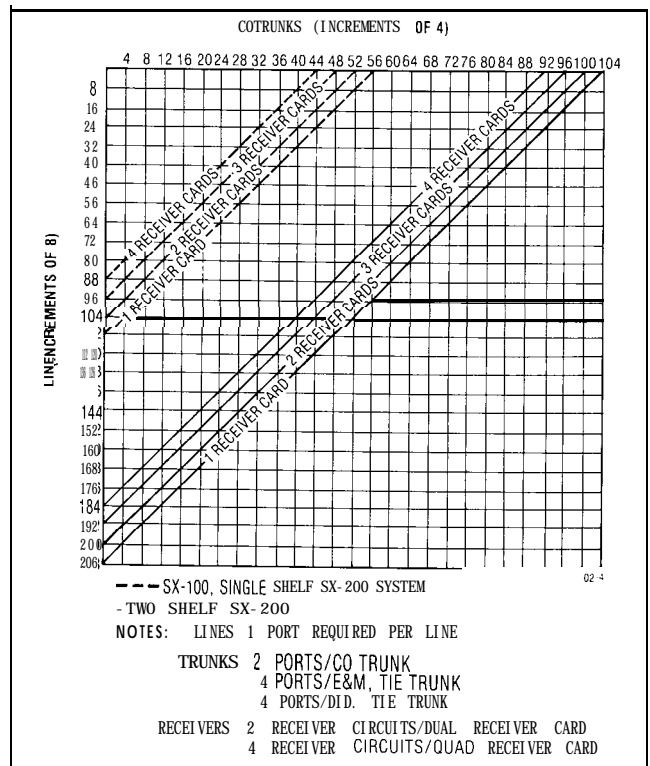

Fig. 3-2 Line/Trunk Configuration
3.06 The number of line, trunk, and receiver cards must be specified to fulfill the individual requirements of each customer. Each line card contains eight independent line circuits. Each trunk card contains two or four trunk circuits depending on the trunk type. The receiver card may contain 2 receiver circuits (dual type) or 4 receiver circuits (quad type). See Fig. 3-2 which shows the maximum configurations of cards.